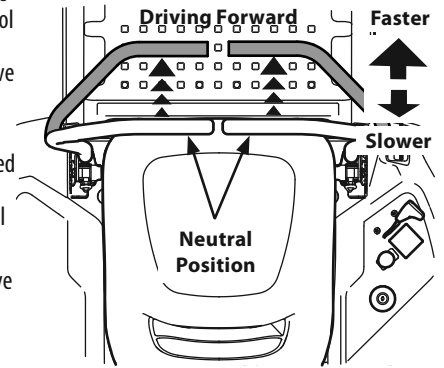

Figure 25
1. Slowly and evenly move both lapbar drive control levers forward. The tractor will start to move forward. See Figure 25.